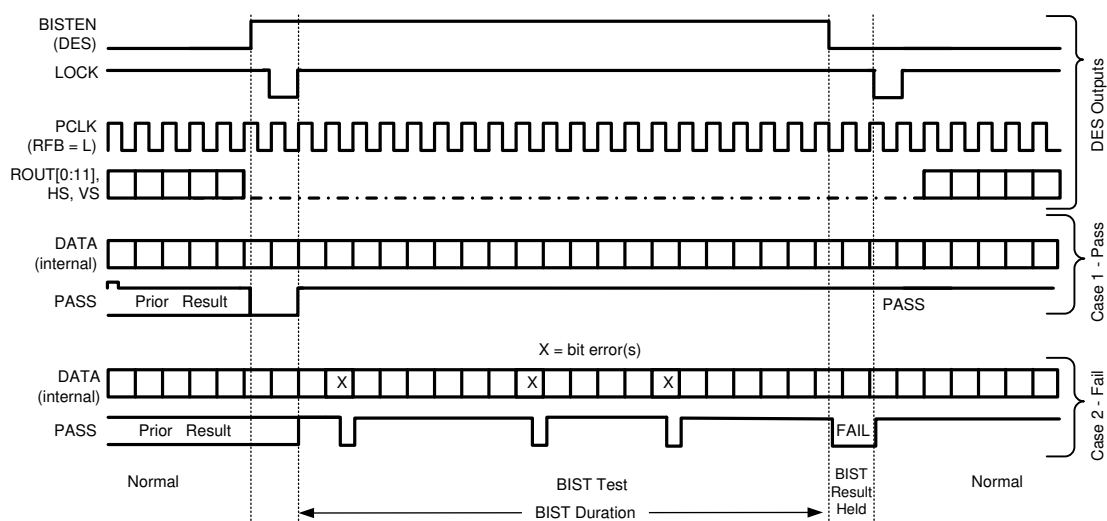

图 7-8. BIST Timing Diagram
- **Step 4:** The link returns to normal operation after the deserializer BISTEN pin is low. 图 7-8 shows the waveform diagram of a typical BIST test for two cases. Case 1 is error free, and Case 2 shows one with multiple errors. In most cases, it is difficult to generate errors due to the robustness of the link (differential data transmission, etc.); thus, they may be introduced by greatly extending the cable length, faulting the interconnect, or by reducing signal condition enhancements (Rx equalization).